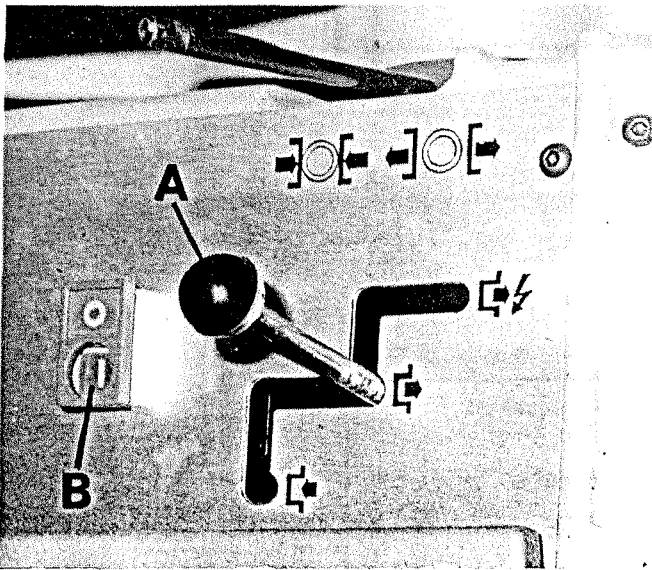

FIG. 3.
2. Position lever "A", FIG.3, in spindle "free" position as shown.